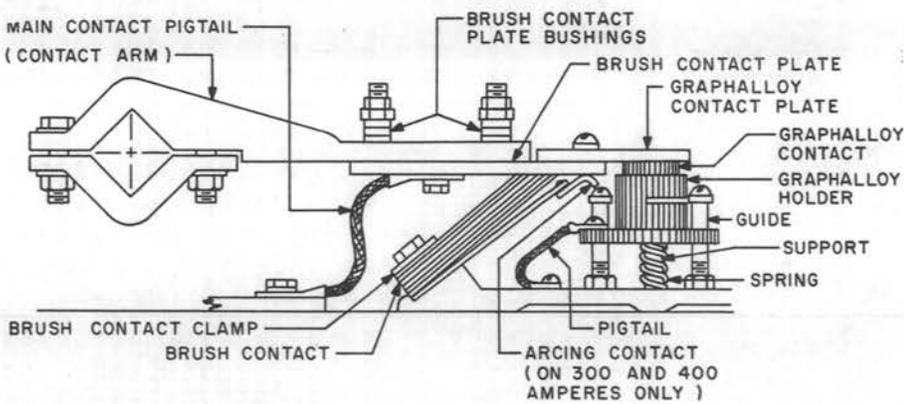

Fig. 9 - Main Contact Structure of 200-, 300-, and 400-Ampere Contactors
**3.10 Graphalloy Contacts** — See Fig. 9 and 10
**3.11 Brush and Graphalloy Contact Plates** — See Fig. 9 and 10